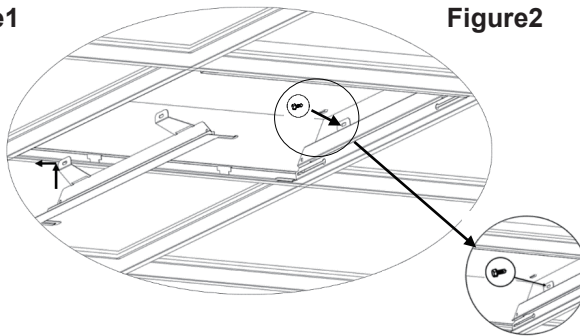

Figure2
STEP2: Install mounting brackets A to each end of the fixture by gently lifting recessed fixture and placing mounting bracket A between the fixture and T-grid. Secure the mounting bracket A to the fixture using the screws left by step 1. If there are no mounting holes, additional drilling is required.(Figure 2)